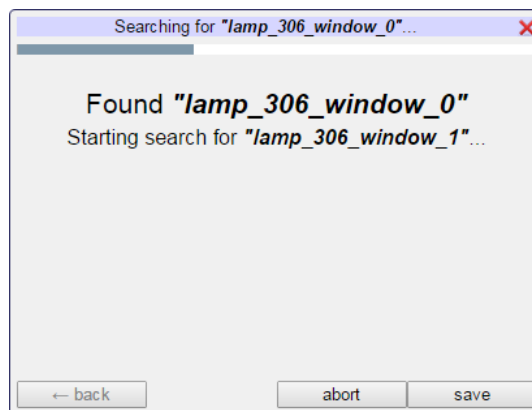

Figure 78: DALI Search Wizard: Device found.
7. A dialog as shown in Figure 78 is displayed. Then the wizard continues with the next device in the list of devices to be identified.